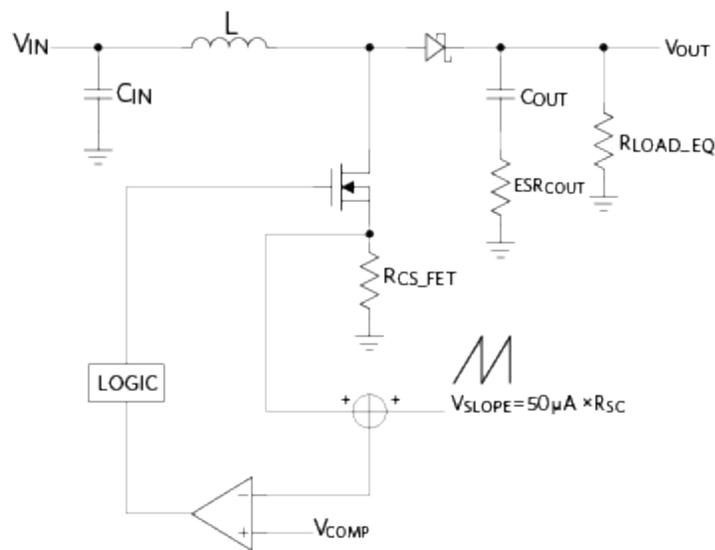

Figure 2. Generic current-mode boost converter open loop configuration.
**Figure 2** shows the generic open loop configuration of a current-mode boost converter operating with continuous inductor current.